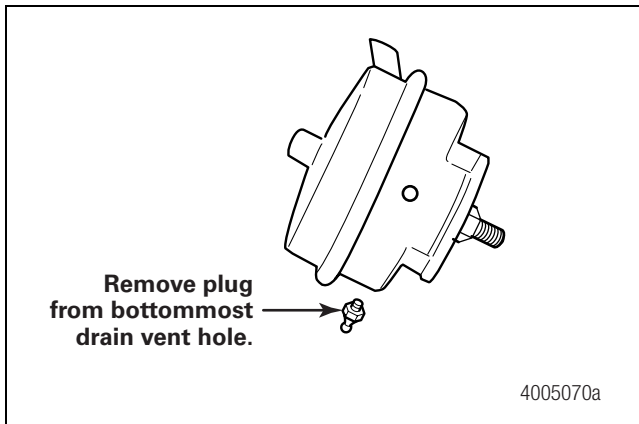
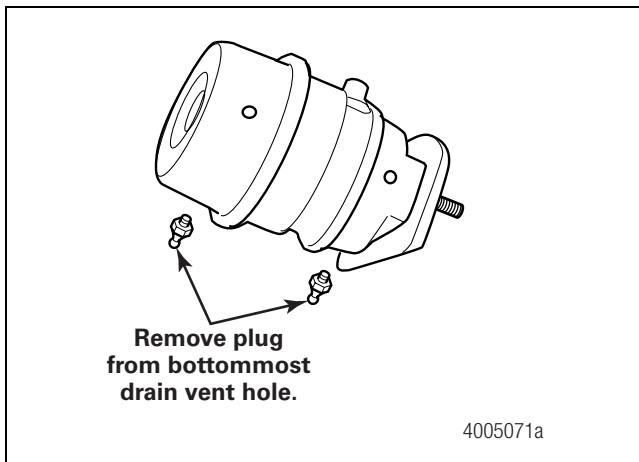

Figure 7.6
Figure 7.7
8. If breather plugs are supplied, locate the bottommost breather plug and remove it from the chamber. Figure 7.6 and Figure 7.7.